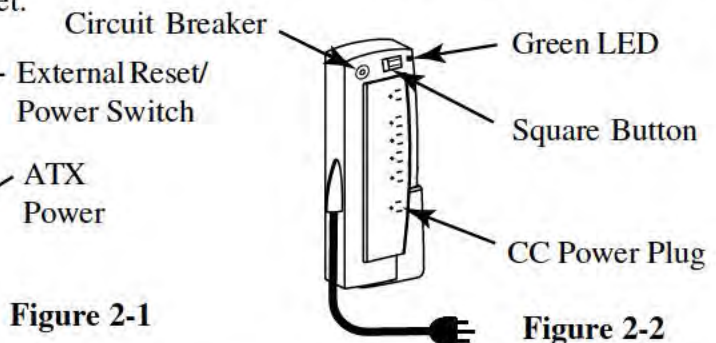

Figure 2-2
UPS See Figure 2-2
2. Unplug the CC from the UPS bottom outlet (see figure 2-2).
- Press the square button (figure 2-2) at the top right of the UPS. The UPS will beep once and a green LED will light to indicate it is on.